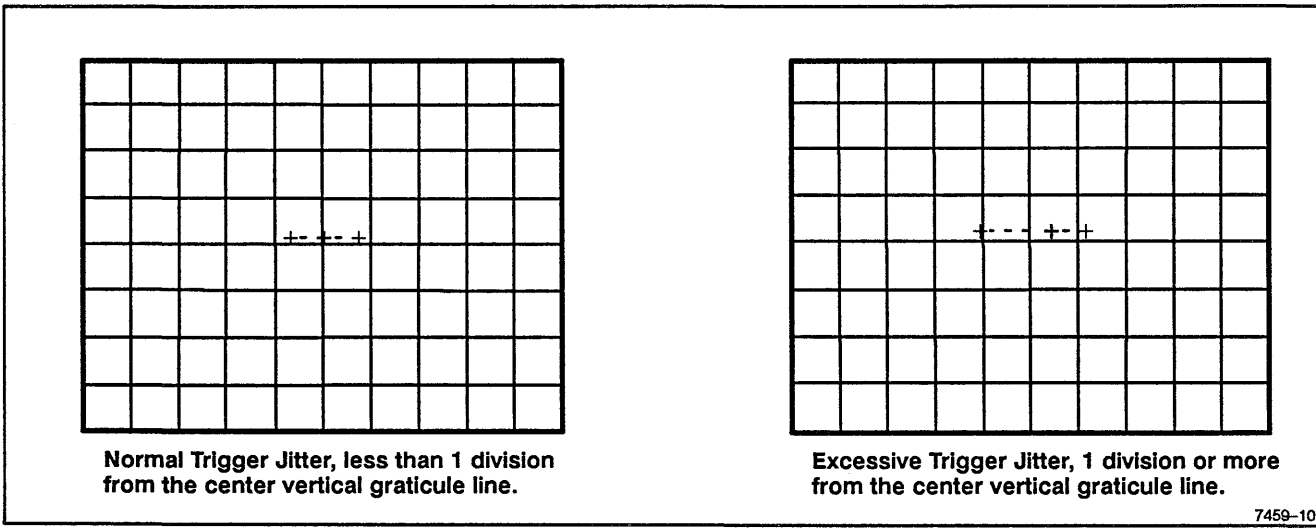

Figure 4-2. Trigger Jitter check.
- e. CHECK – that the trigger position indicator (+) remains within the center two horizontal divisions (see Figure 4-2) An occasional jump outside the center two divisions is all right.